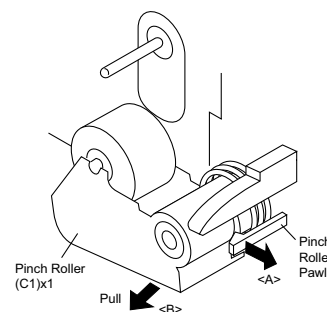

Figure 3
1.3. How to remove the pinch roller (TAPE 1/2) (See Fig. 3)